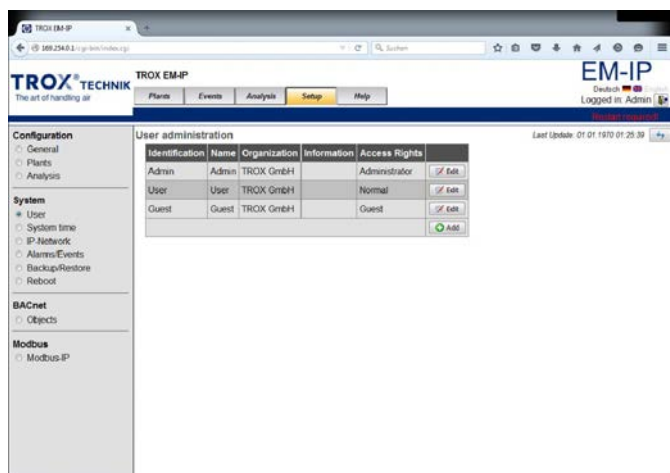

Fig. 27: User administration
- ⇒ The 'User administration' (Fig. 27) page is displayed.